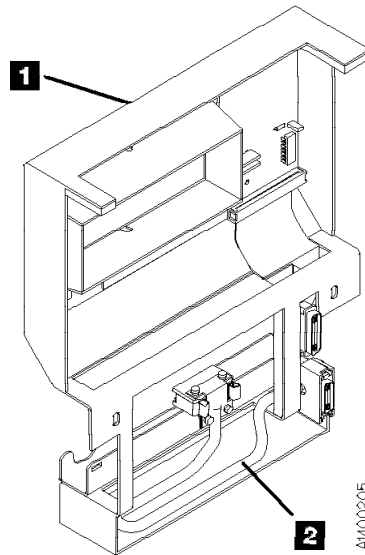

Figure 358. Operator Panel Cable
2. See Figure 358. Remove the library interface cover **1**. See “Library Interface Cover” on page PROC-28, then return here.